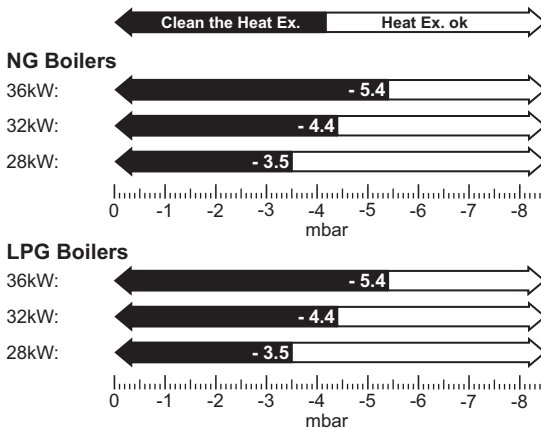

Fig. 75 Fan pressure readings
- ▶ The pressure will read negative, refer to the chart in figure 75 below.